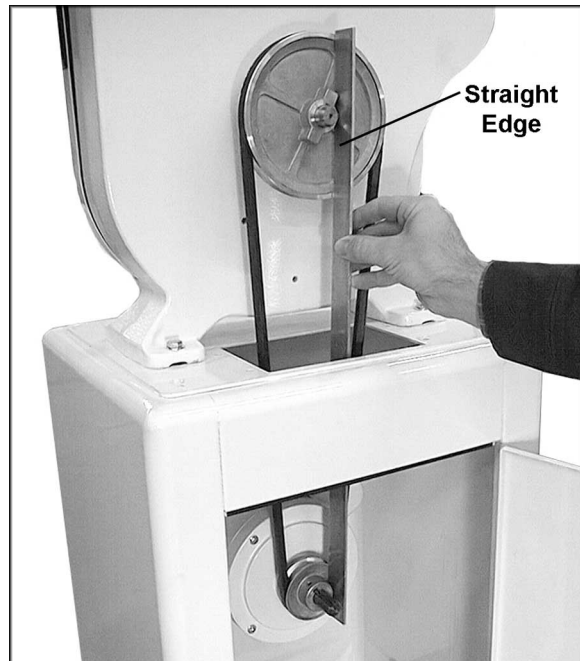
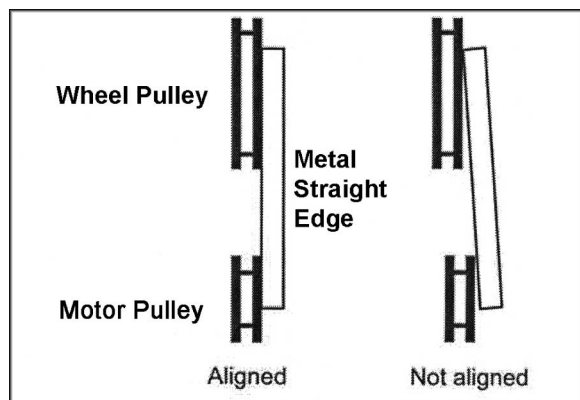

Figure 13
Figure 14
6. Check the alignment of the pulleys by placing a straight edge against the flat sides of the motor and wheel pulleys (Figure 13). If the pulleys lie in a straight plane (Figure 14) they are aligned. If they do not lie in a straight plane, loosen the set screw on one of the pulleys and shift the pulley in or out until both pulleys lie in a straight plane. Tighten set screw.
7. Open the lower door, and place the v-belt around the motor pulley and the wheel pulley (see Figure 13).